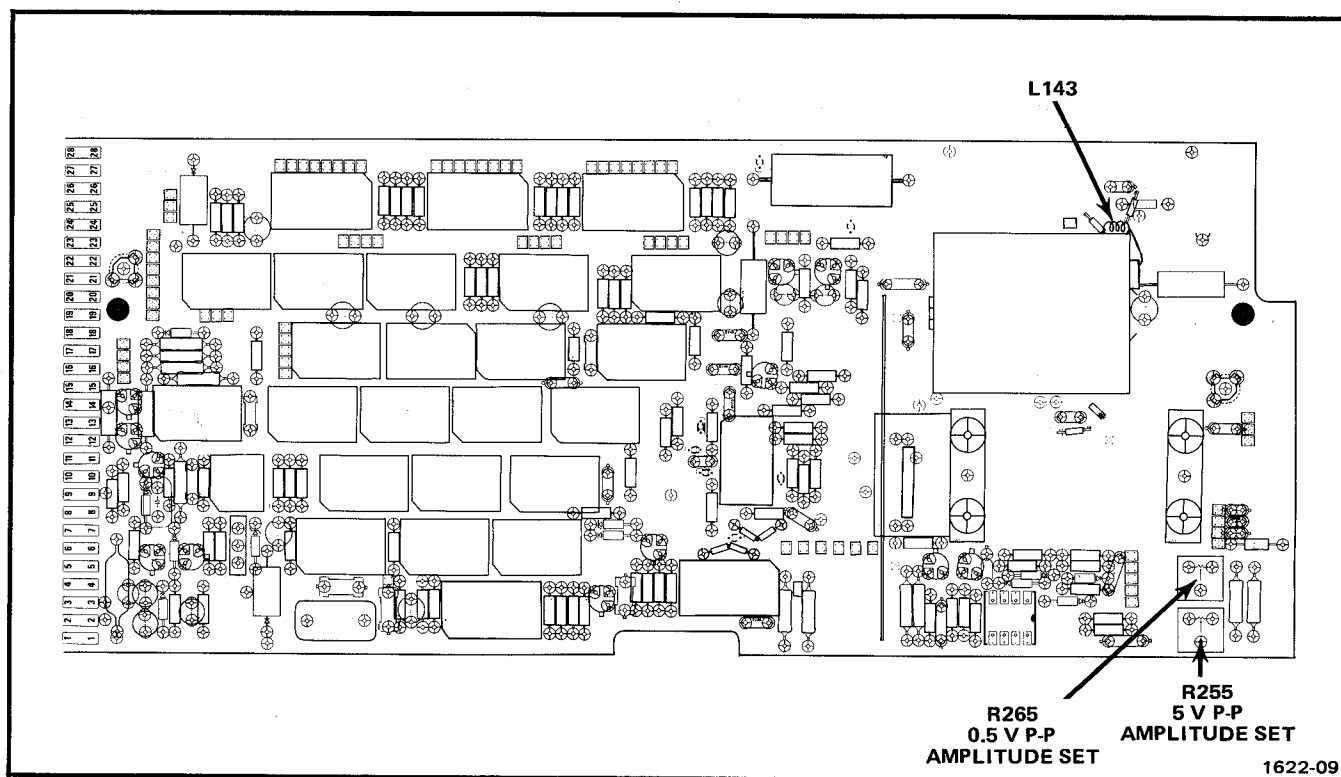
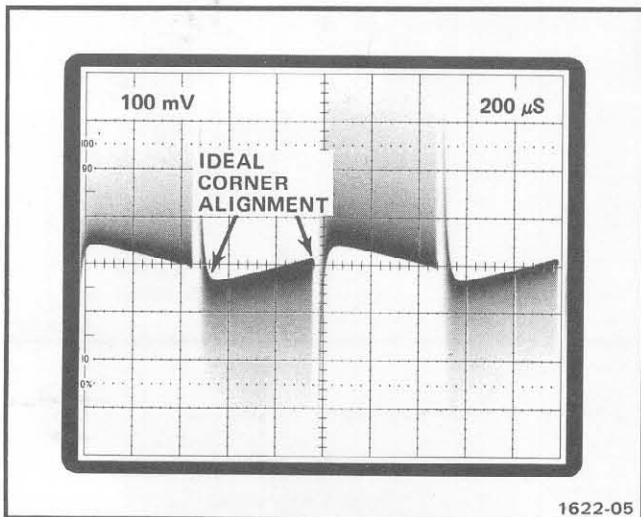

Fig. 3-2. Location of L143, 0.5 V P-P, and 5 V P-P Amplitude Set.
Fig. 3-3. Display of complex waveform (idealized) obtained when the amplitude set controls are properly adjusted at 0.05 MHz.
d. Set the time-base triggering controls for a stable display; a crt display similar to Fig. 3-3 is obtained.
e. Check—that the corners of the idealized waveform are aligned as illustrated in Fig. 3-3. Disregard waveform tilt.
f. Adjust—5.0 P-P Amplitude Set, R255, so the corners of the idealized waveform are aligned as illustrated in Fig. 3-3. See Fig. 3-2 for adjustment location.
i. Check—that the waveform is similar as illustrated in Fig. 3-3.
j. Adjust—0.5 V P-P Amplitude Set, R265, so the corners of the idealized waveform are aligned as illustrated in Fig. 3-3. See Fig. 3-2 for adjustment location.
c. Check—that the corners of the idealized waveform are not separated by more than 1.5 vertical divisions. See Fig. 3-3 for waveform illustration.
g. Check—that the corners of the idealized waveform are not separated by more than 1.5 vertical divisions. See Fig. 3-3 for waveform illustration.
- e. Adjust—L143, (physically moving coil), to meet the suppression requirement as given in part d of this step. See Fig. 3-2 for adjustment location.